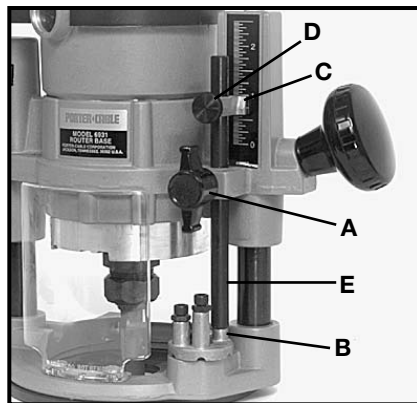

Fig. 10
2. Loosen depth rod locking knob (A) Fig. 10, and depth indicator knob (D) Fig. 10, allowing the depth rod (E) Fig. 10, to contact one of the turret stops (B) Fig. 10.
5. Position depth indicator (C) Fig. 10, at "0" position and tighten knob.